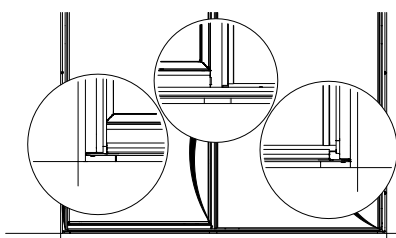

Figure 12: Loosely shim element
9. Loosely shim the element with blocks under the mullion and side frames (figure 12).